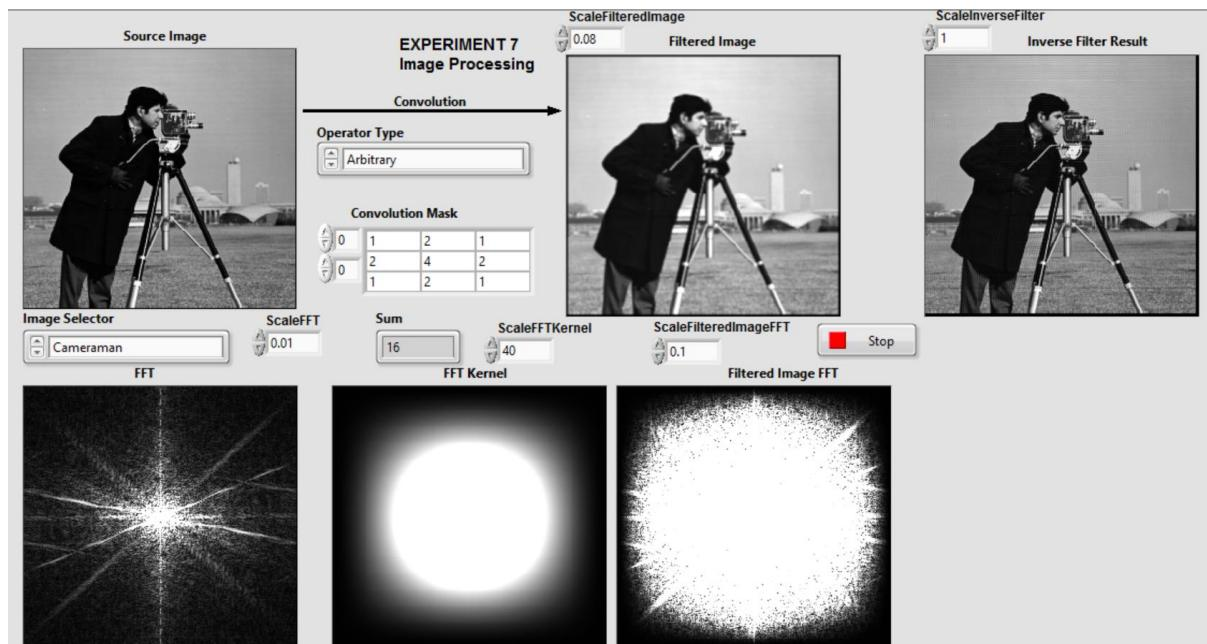
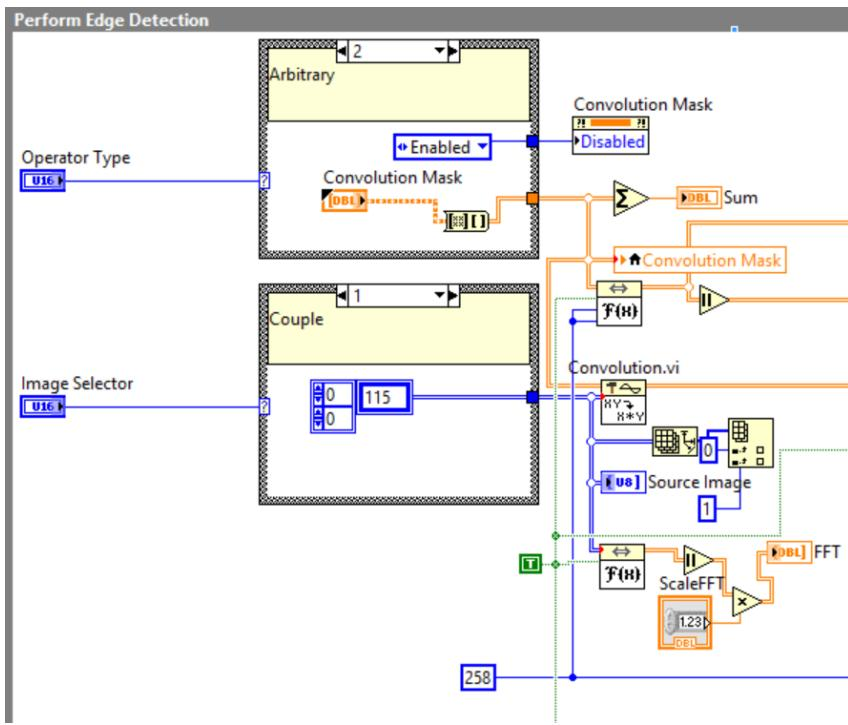

Figure 2. Front panel of Experiment 7.
Figure 3. Part of the Block Diagram in Experiment 7.
A part of the front panel of Experiment 7 is given in Figure 2. Note that FFT vi in LabVIEW has an input which you can set as True to obtain “**fftshift**” effect in MATLAB. Also the front panel does not include certain parts that you need to implement and hence given only for guidance.
- a) Modify the contents of Edge Detection with 2D Convolution.vi such that you have a front panel similar to Figure 2. A part of the Block Diagram after modification looks like as shown in Figure 3.
- d) Increase the size of the Convolution Mask in Figure 2 to 9x9. You can easily do that by enlarging the box with mouse and entering numerical values. Repeat **part e)** in MATLAB Tasks. In this case you only need to implement the filtering using “**convolution.vi**”.